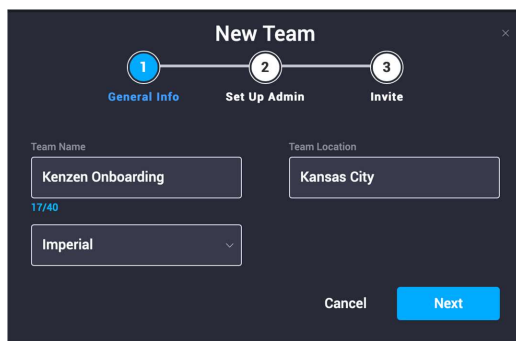

Figure 37: Team Information
4. Enter team information, including a unique short **Team Name**, **Team Location**, and **Units** (Figure 37).